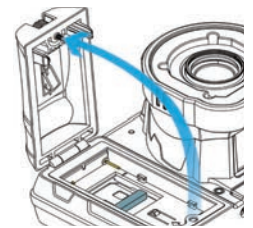
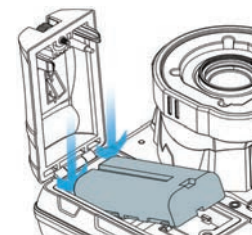

FIGURE 1
FIGURE 4
- 1 Open the battery compartment door (Fig.1) using the stylus screwdriver. Remove the battery (if installed).
Open the battery compartment door (Fig. 1) using the stylus screwdriver. Align the gold contact pins (Fig. 3) in the compartment with the contact holes on the battery. (Fig. 4)